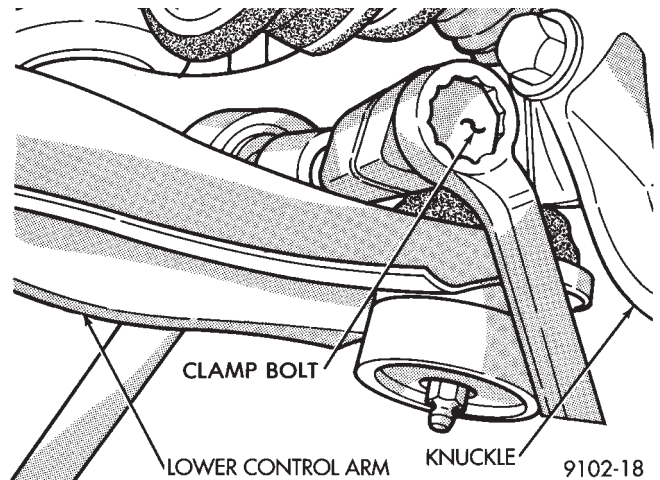

Fig. 14 Tighten Steering Knuckle Clamp Bolt
(6) Install the original (or equivalent) steering knuckle to ball joint stud, clamp bolt and nut (Fig. 14). Torque the clamp bolt to 136 N•m (100 ft. lbs.).